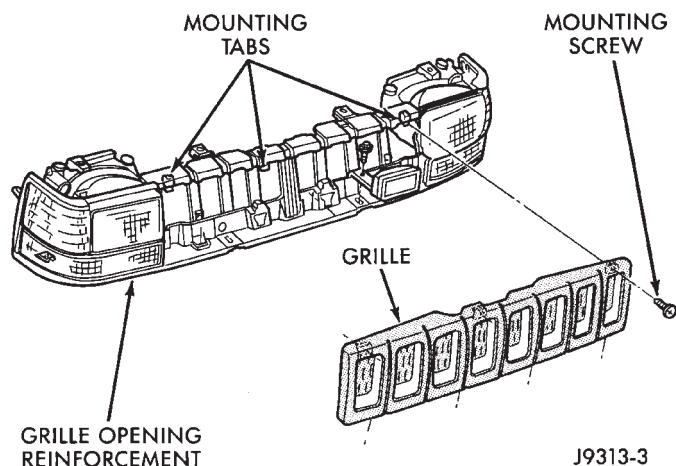

Fig. 1 Grille Removal
(1) Remove 3 screws and grille (Fig. 1) from grille opening reinforcement (GOR).